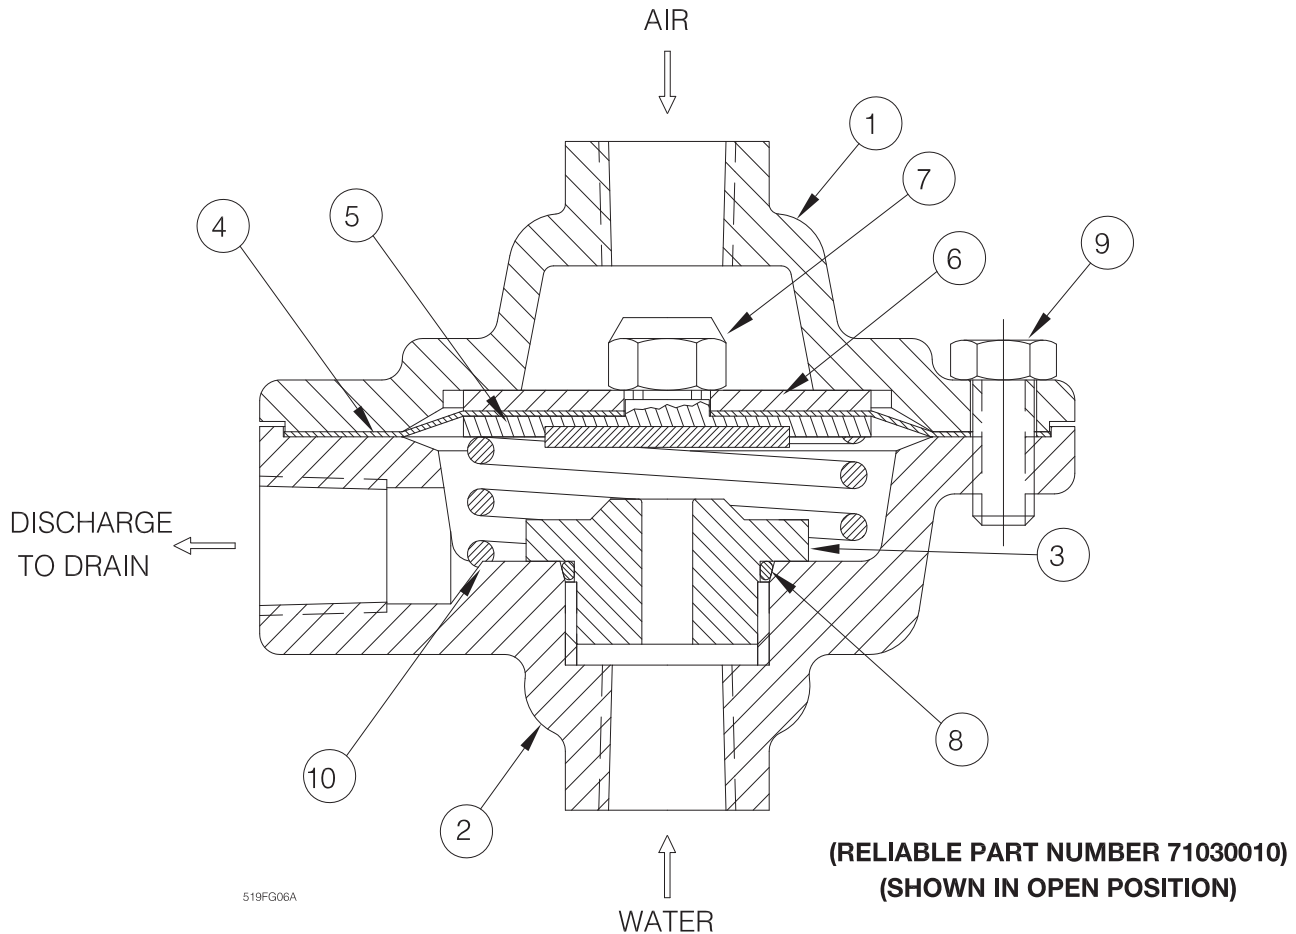

Fig. 11
3. Remove all six bolts (#9, Fig. 11) holding the Actuator together. Clean or replace the facing plate assembly (#5, Fig. 11), seat (#3, Fig. 11) and seat o-ring (#8, Fig. 11).
4. Reassemble the Actuator, using a torque of 8 ft-lbs on the facing plate nut (#7, Fig. 11) and 12 ft-lbs on the six bolts (#9, Fig. 11). Use a cross-tightening pattern. Reinstall the Actuator. Set up the Model DDX Deluge Valve as per the section "Resetting Model DDX Type F Double Interlock Preaction System".